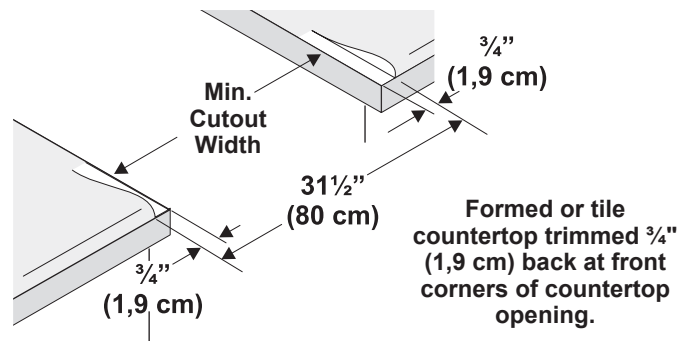

Figure 1
1.2 Countertop Preparation (figure 1)
- **Formed front-edged countertops** must have molded edge shaved flat 3/4" (1,9 cm) from each front corner of opening (Figure 1).
- **Tile countertops** may need trim cut back 3/4" (1,9 cm) from each front corner and/or rounded edge flattened (Figure 1).